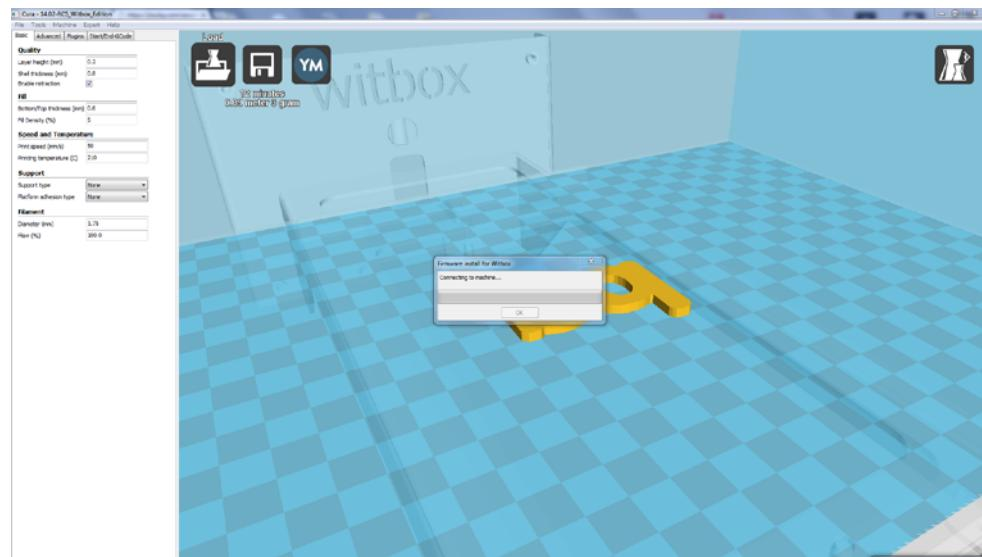

Figure 4.17 Software update in progress
- 5 The new firmware will be automatically loaded onto the printer (fig. 4.17).